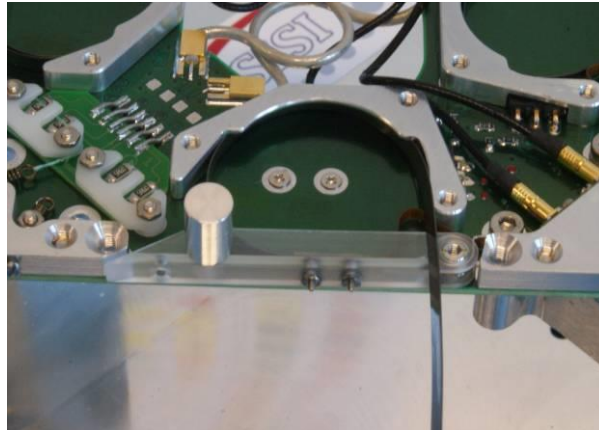

Figure 5-2 Fixing lid with HDRM assist pin
4. Close the antenna lid with the HDRM assist pin and stow the antenna (Figure 5-2).